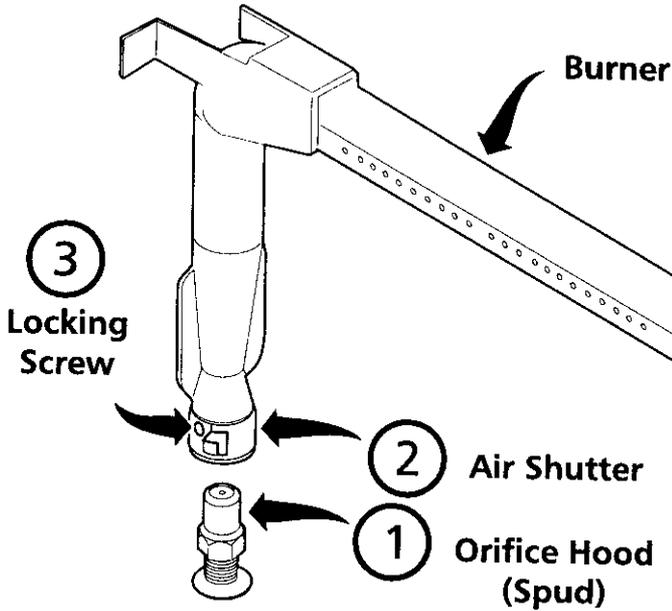

FIGURE 9
- Turn off oven and allow to cool before adjusting air shutter. To adjust loosen lock-screw (See Figure 9), reposition air shutter, and tighten lock-screw.